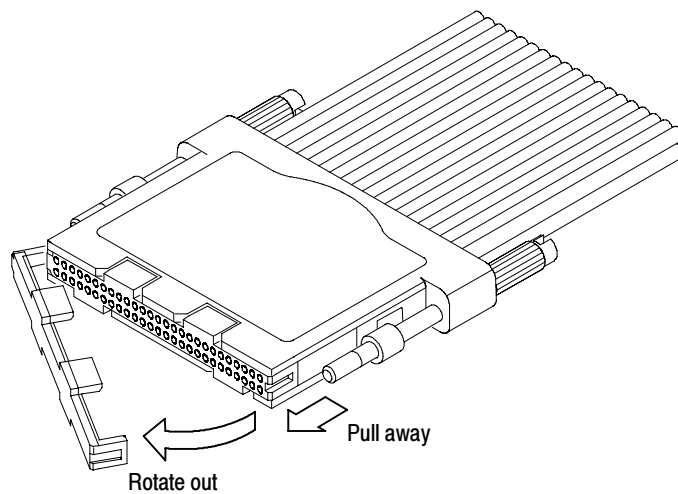

Figure 30: Replacing the cLGA clip
1. Gently pull one side of the clip away from the probe head, as shown in Figure 30, and then remove the entire clip.